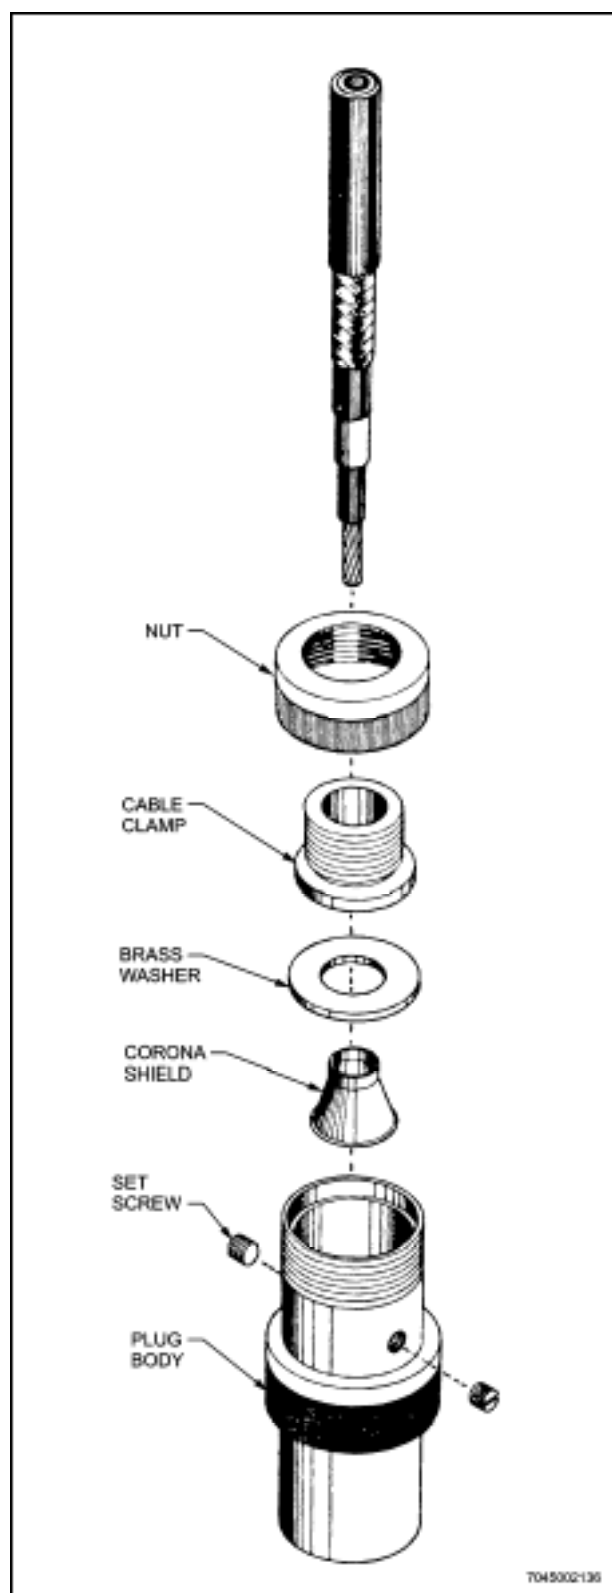

Figure 12-30 Pulse Connector - Ceramic Insert
- a. **Ceramic Insert Version.** Consists of a plug or jack body assembled to coaxial cable with nut, cable clamp, washer, and corona shield. (See Figure 12-30). Plug UG-174/U is typical of this version.